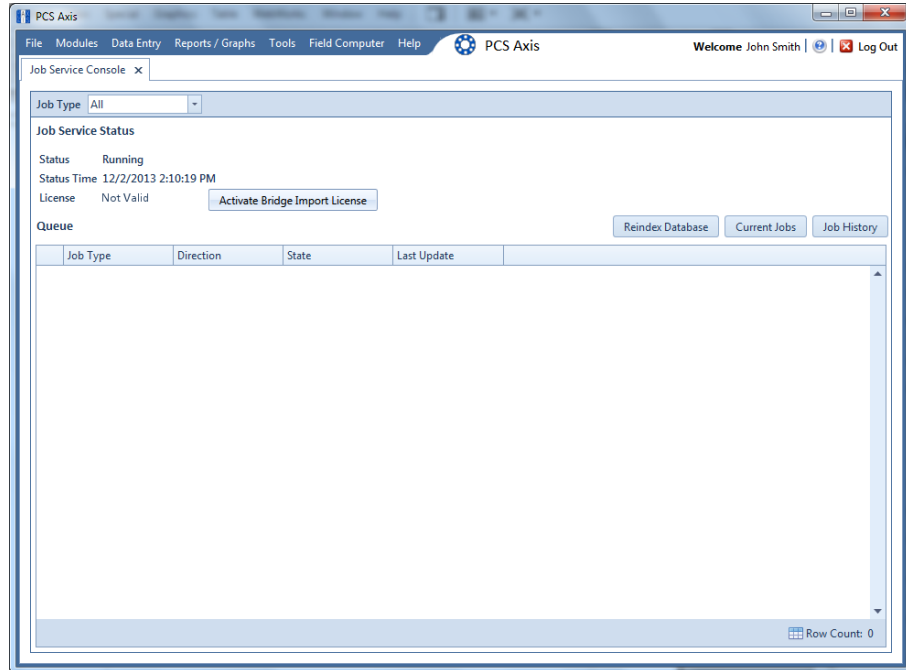

Figure 2-2. Job Service Console
- 2 Click **Tools** > **Job Service Viewer** to open the *Job Service Console* window (Figure 2-2, page 16)